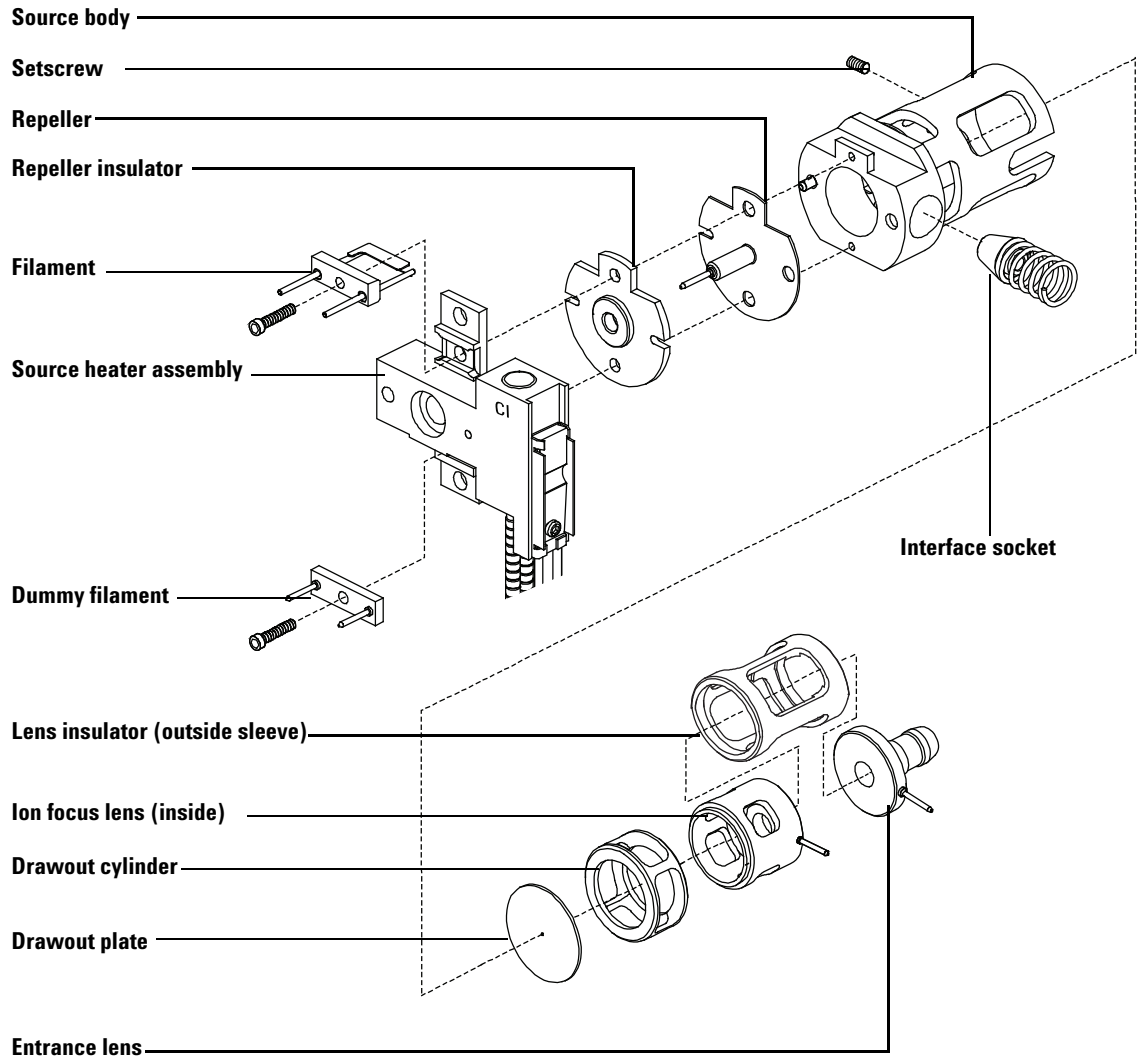

Figure 30 Assembling the CI ion source
- 1 Assemble the ion focus lens, entrance lens, and lens insulator (Figure 30).
- 2 Slide the drawout plate and the drawout cylinder into the source body (Figure 30).